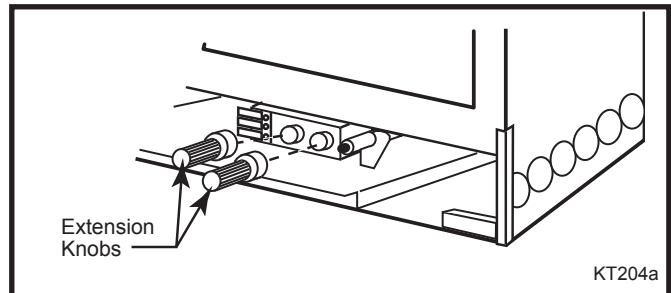

Fig. 31 Install the knob extensions. (RN/RP models Only)
- c. Install the control knob extensions onto the appropriate control valve knobs. (Fig. 31)
On units fitted with a Honeywell brand control valve the location of the control knobs and the ignitor button may vary slightly from those shown in Figure 31. The Honeywell extension pieces are visually different in design and are not interchangeable with the RN/RP knobs shown in Figure 31.